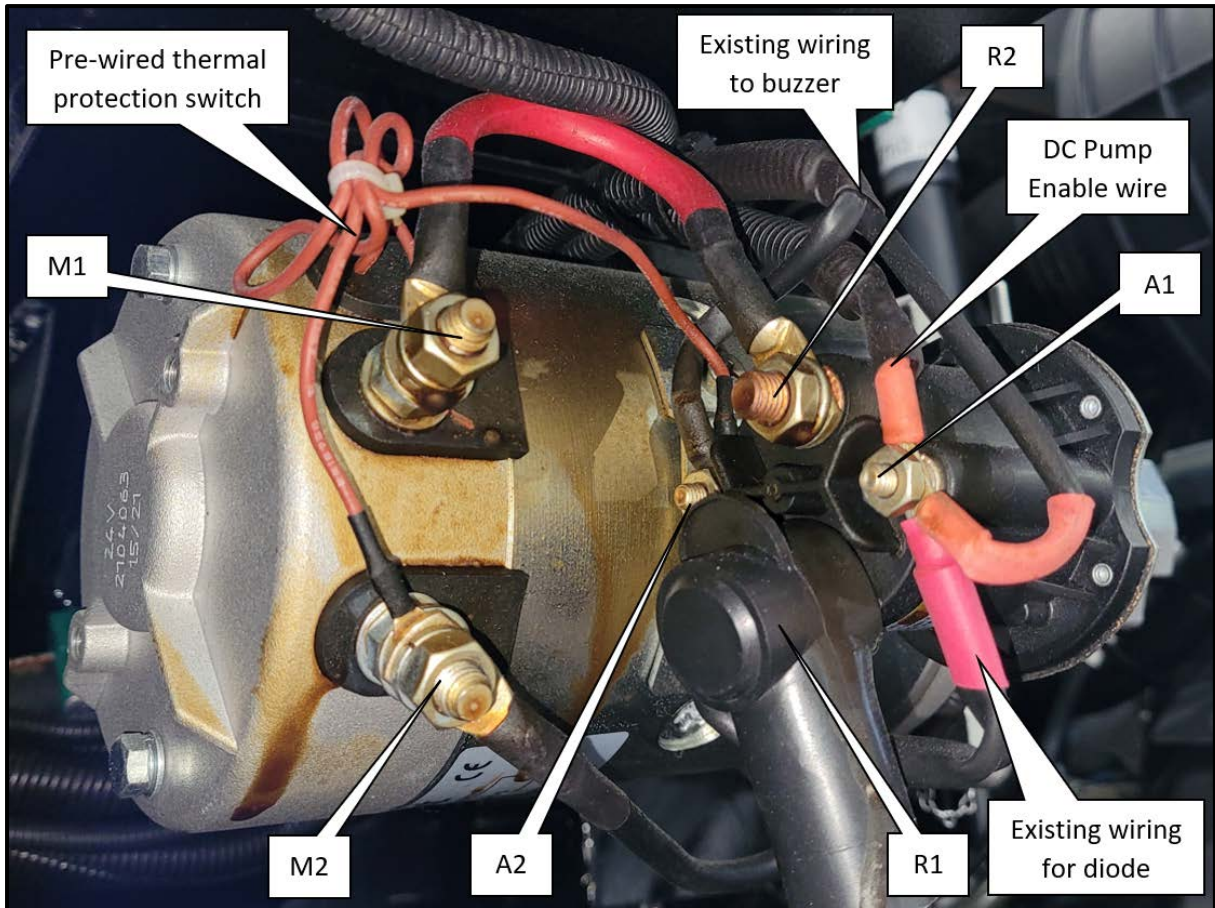

Figure 3: Alternative DC Pump terminal and wiring identification (TF EN280 & TL series MEWPs)
8. Re-connect wiring. Refer to Figure 3 for DC Motor and Starter Relay terminals.
8. Re-connect wiring. Refer to Figure 3 only for DC Motor and Starter Relay terminals.